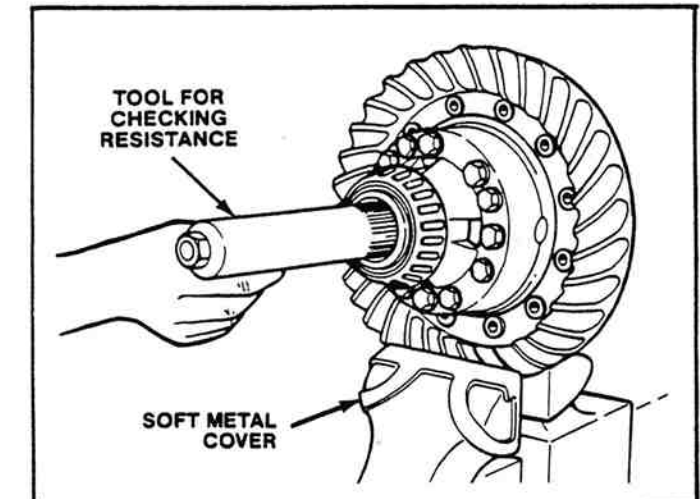

Figure 2-72. Installing Rolling Resistance Checking Tool.
a. Install soft metal covers over vise jaws to protect the side gear (Figure 2-72).
c. Install the tool into the differential until the splines of the tool and one side gear are engaged (Figure 2-72).